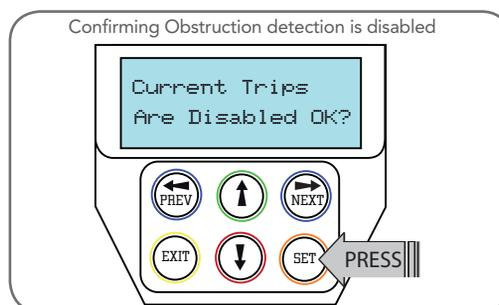

Fig H.6
- No current trip obstruction detection is available when using timed travel. Press SET if you accept this (**Fig. H.6**).